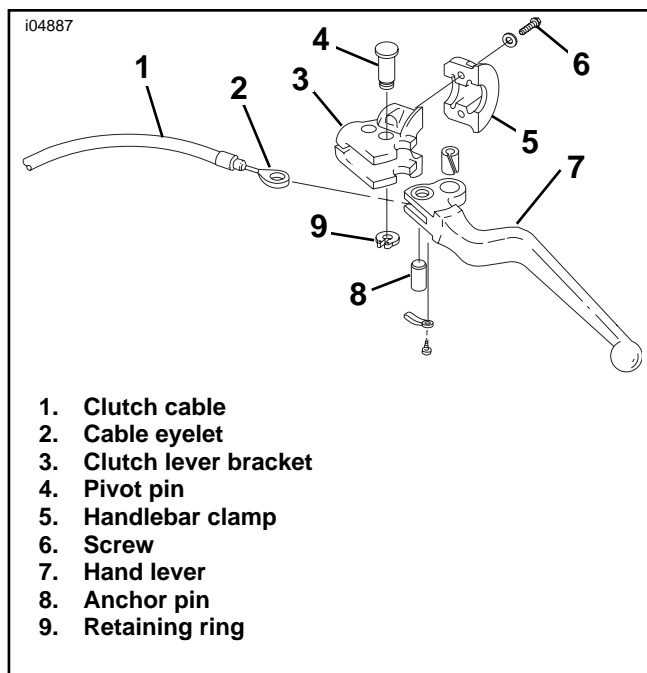

Figure 2. Original Clutch Hand Lever Assembly
11. See Figure 2. Remove the retaining ring (9) from the clutch hand-lever pivot pin (4). Remove the pivot pin and clutch hand-lever (7) from the clutch-lever bracket (3).
12. Remove the anchor pin (8) and the clutch-cable eyelet (2) from the clutch hand-lever. Remove any clamps retaining the clutch cable to the bike, and remove the cable. Discard all components and hardware removed in this step.
13. Using a T27 TORX drive head, remove the two screws (6) with flat washers securing the handlebar clamp (5) to the clutch-lever bracket.